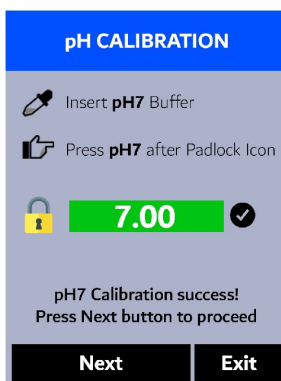

Figure 46.
11. If the calibration succeeds, a checkmark (✔) and a "pH7 Calibration success!" message will appear (Figure 46). Otherwise, a warning message is displayed.
- (b) Press **Exit** (OK) to end the calibration process at a one-point calibration.